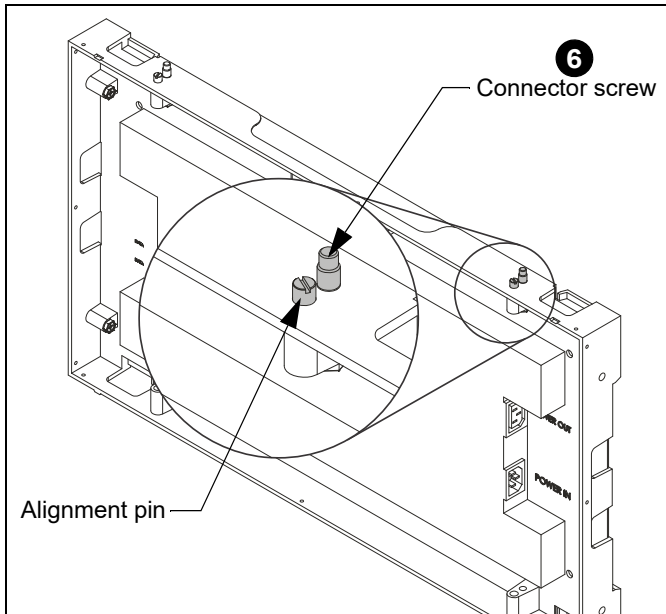

Figure 26
6. While installing the cabinets, occasionally check to be sure the connector screws fit and easily slide into place. (See Figure 26)
Just a tip - When installing the cabinets do not force them together. If the alignment pins (See Figure 26) are difficult to insert, the plumb may need to be adjusted or there may be interference somewhere in the installation. Adjust as necessary.